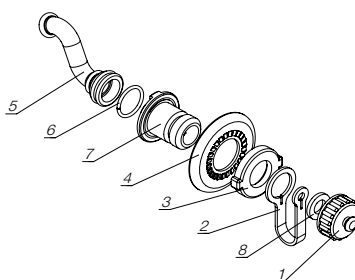

Fig. 11
3. If necessary, replace parts and assemble valve as shown (figure 11, pos. 5-7) or take new drinking device.